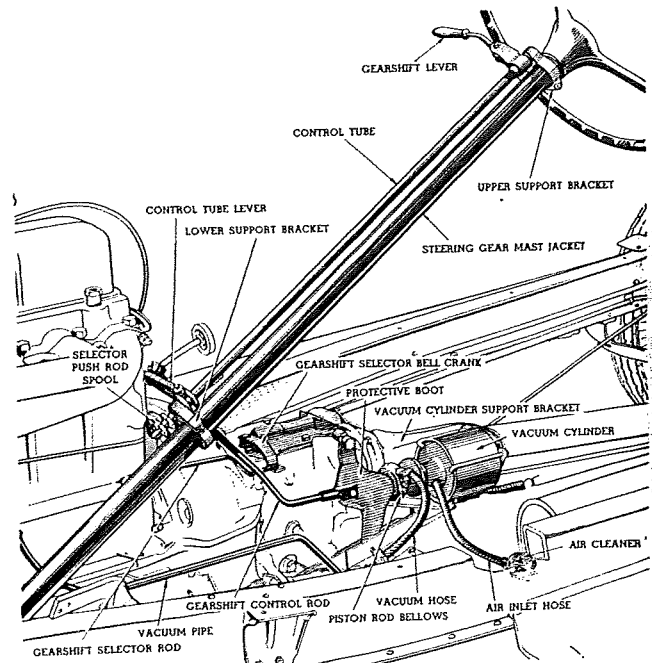

Fig. 5—Chevrolet 1939
DISASSEMBLE: (See Fig. 5.) (1)—Remove